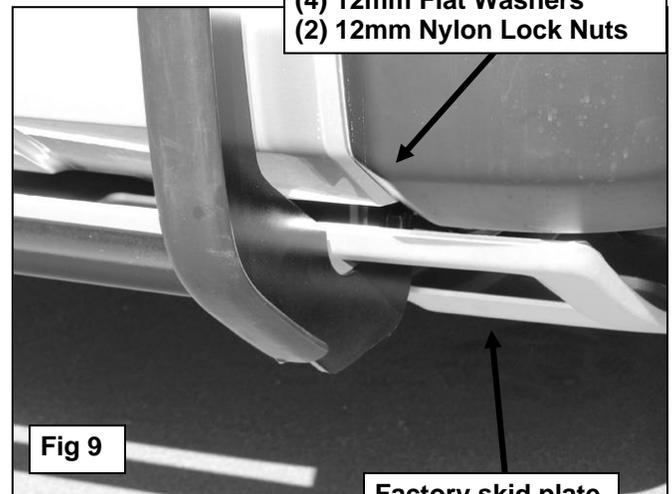

Fig 9
10. With assistance, position the Grille Guard onto the outside of the Frame Mounting Brackets. Use the included (4) 12mm x 30mm Hex Bolts, (8) 12mm Flat Washers and (4) 12mm Nylon Lock Nuts to attach the Grille Guard to the Frame Brackets, **(Figure 9)**.
11. Line up the mounting hole in the driver side Top Bracket with the corresponding hole in the upright on the Grille Guard. Bolt the Top Bracket to the Grille Guard with the included (1) 10mm x 30mm Button Head Bolt, (2) 10mm x 20mm Small Flat Washers and 10mm Nylon Lock Nut. Do not tighten hardware at this time. Repeat this Step to bolt the passenger side Top Bracket to the Grille Guard.
13. Temporarily remove the Grill Guard. Reinstall the factory skid plate. Reinstall the Grille Guard and tighten all hardware, **(Figure 9)**.